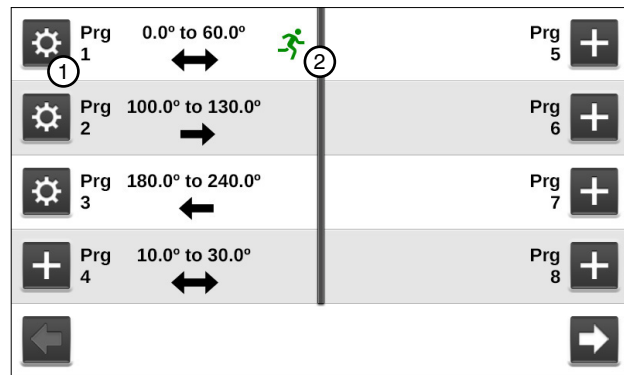

Figure 142-1 Sector Programs Screen
1. Push **Menu**, **Programs**, and **Sector Programs** to view the Sector Programs screen. Refer to Figure 142-1.